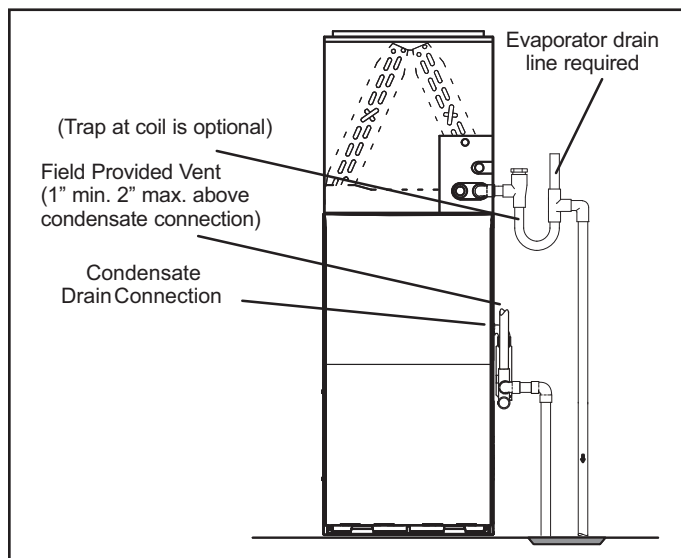
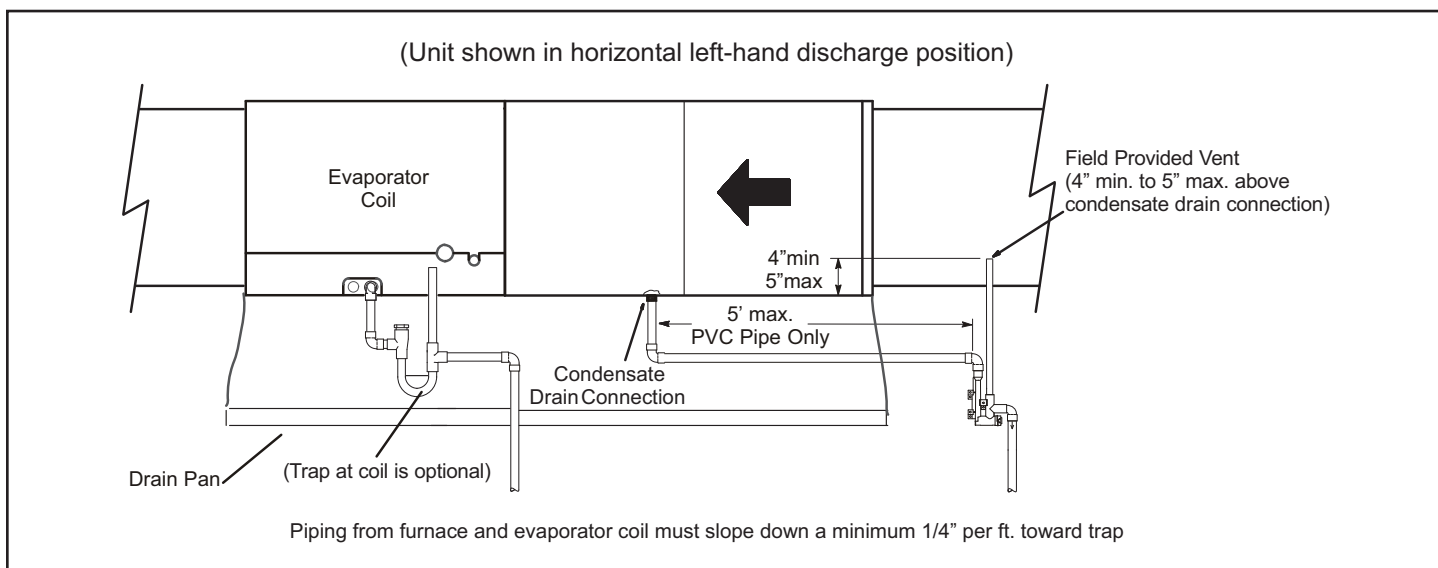
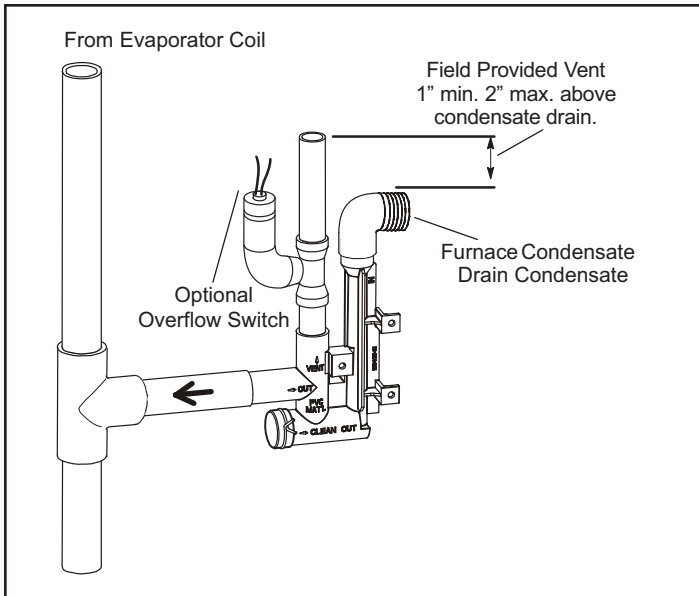
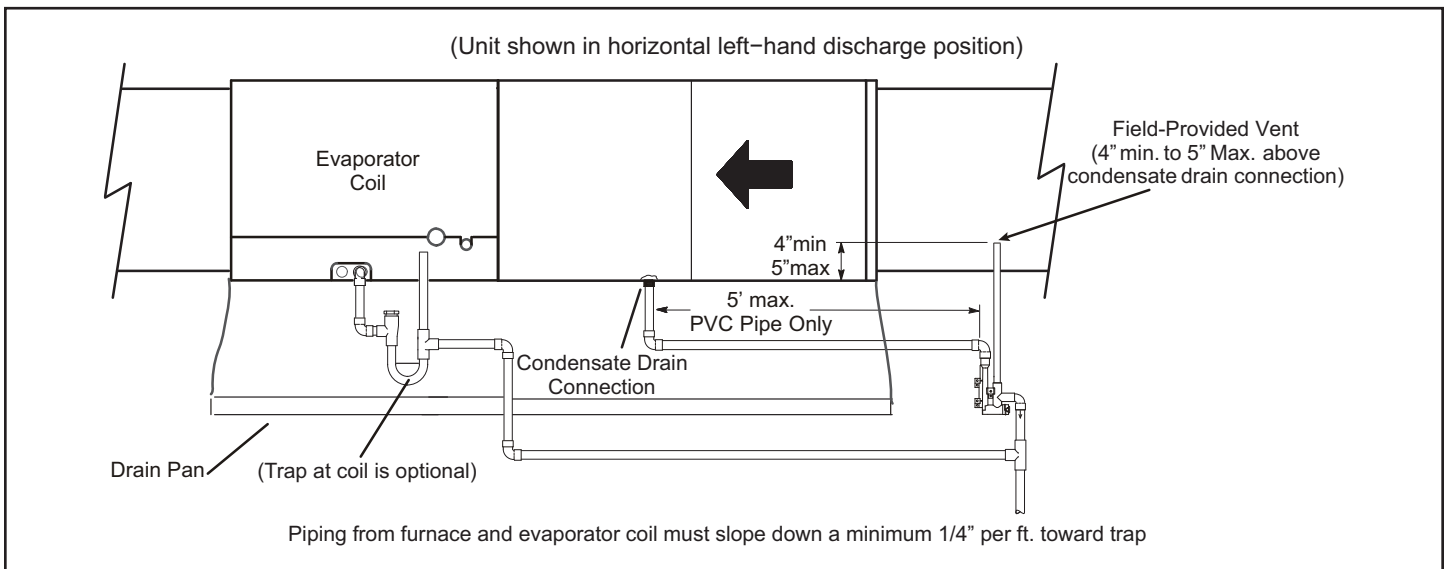

Figure 38. Furnace with Evaporator Coil Using a Separate Drain
Figure 39. Furnace with Evaporator Coil Using a Separate Drain
Figure 40. Condensate Trap With Optional Overflow Switch
Figure 42. Furnace with Evaporator Coil Using a Common Drain
5. **Figure 38** and **Figure 39** show the furnace and evaporator coil using a separate drain. If necessary the condensate line from the furnace and evaporator coil can drain together. See **Figure 40** through **Figure 42**.
Upflow furnace (Figure 38) - In upflow furnace applications the field provided vent must be a minimum 1" to a maximum 2" length above the condensate drain outlet connection. Any length above 2" may result in a flooded heat exchanger if the combined primary drain line were to become restricted.
Horizontal furnace (Figure 39) - In horizontal furnace applications the field provided vent must be a minimum 4" to a maximum 5" length above the condensate drain outlet connection. Any length above 5" may result in a flooded heat exchanger if the combined primary drain line were to become restricted.